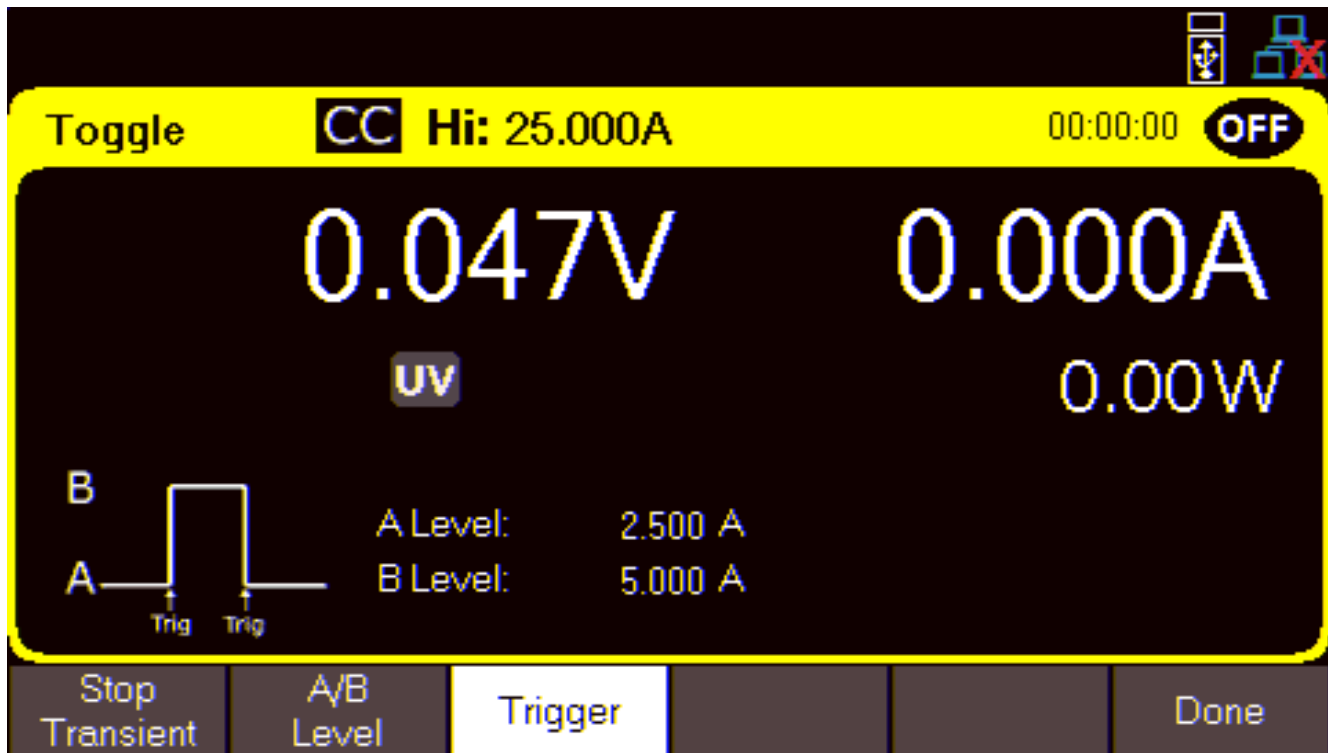

Figure 6.8 Hold Trigger Available
- * **Hold**: The trigger source is the press of the trigger key, either assigned to a programmable key or appears as a softkey when the trigger function becomes available (see bold Figure 6.8).